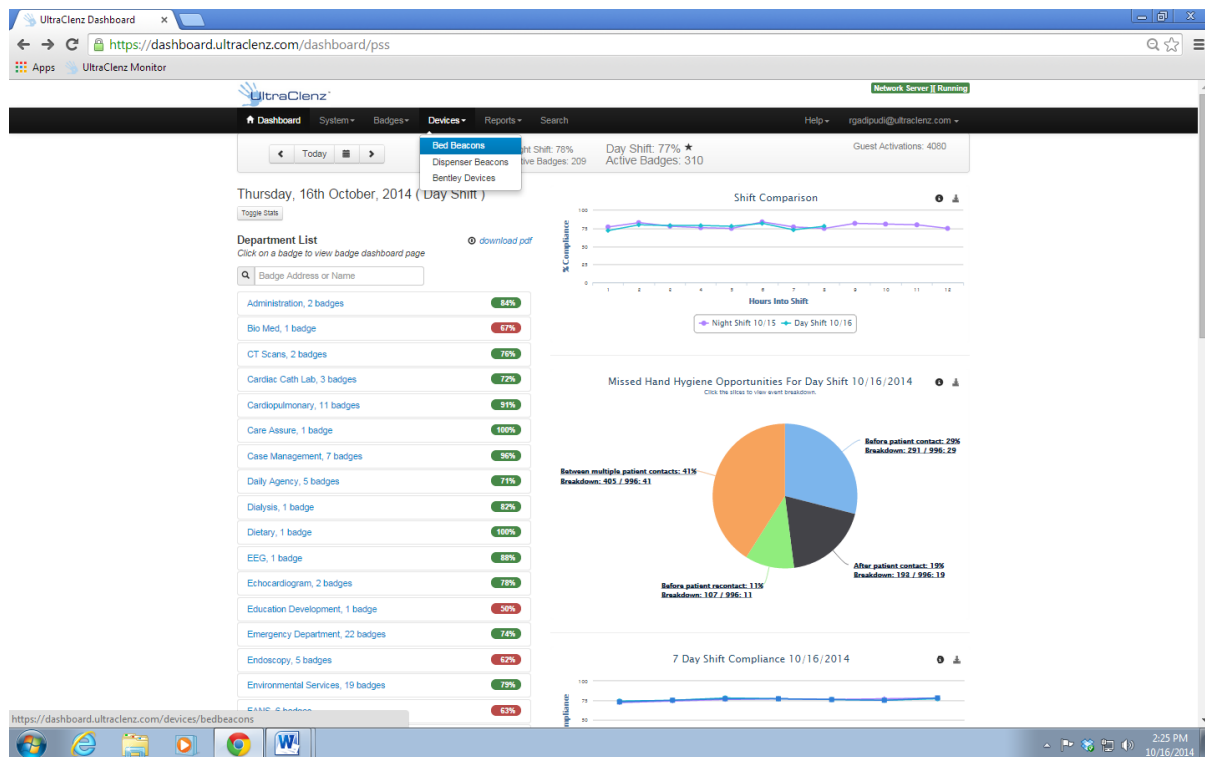

Figure 13. Choose Device Screen
5. Click on **Device** and **Bed Beacon** as shown in *Figure 13*.